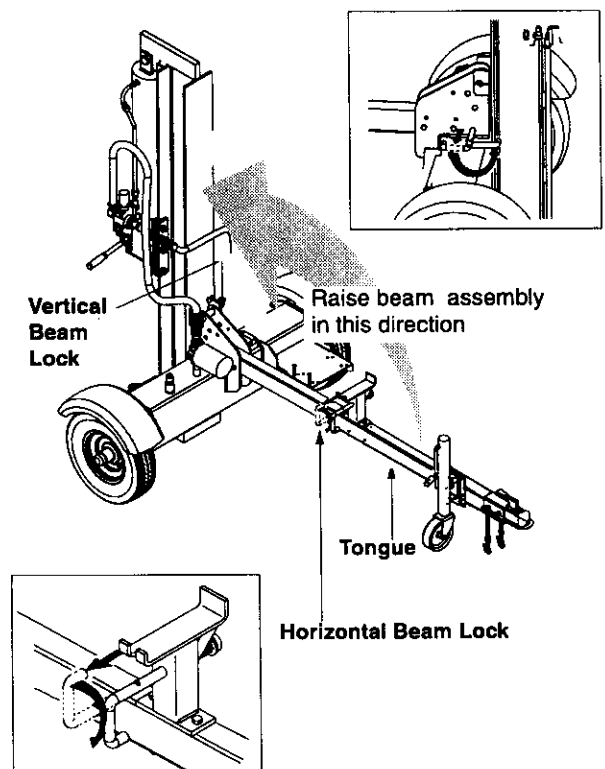

Figure 10
- Move the beam to the vertical position. Secure it with the beam lock on the reservoir tank assembly. See Figure 10.
- To lower the beam, pull out the beam lock on the reservoir tank and pivot it down to release the beam. Carefully pull back on beam and lower it to the horizontal position. See Figure 10.